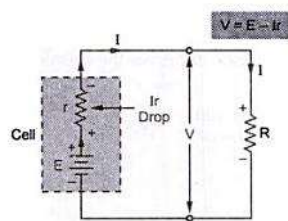

Fig. 1.19 Terminal voltage
3. **Terminal voltage** : When an external resistance is connected across the terminals of the cell, the current I flows through the circuit. There is voltage drop ' Ir ' across the internal resistance of the cell. The cell e.m.f. E has to supply this drop. Hence practically the voltage available at the terminals of the cell is less than E by the amount equal to ' Ir '. This voltage is called the **terminal voltage** V . This is shown in the Fig. 1.19.